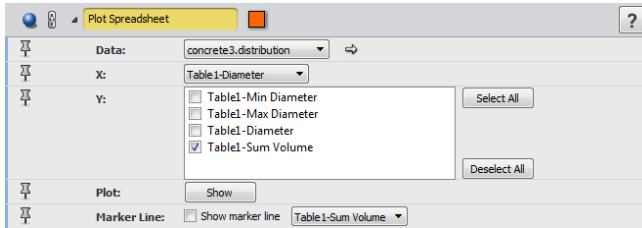
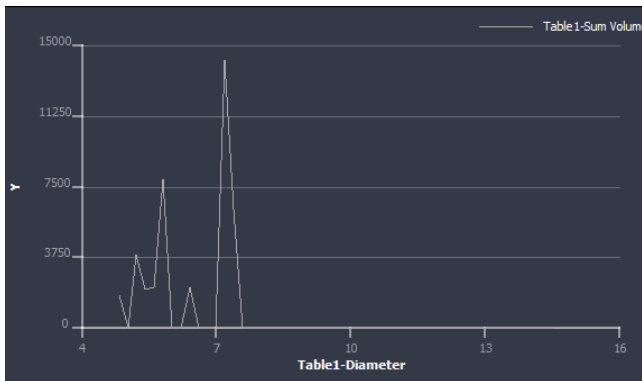

Figure 10.26: Parameter Settings of the *Plot Spreadsheet* Module
Figure 10.27: Fibers' Distribution Plot
3. Attach a *Plot Spreadsheet* module to the output and set the parameters as shown in Figure 10.26, and click **Show** in the *Plot* port (see Figure 10.27).